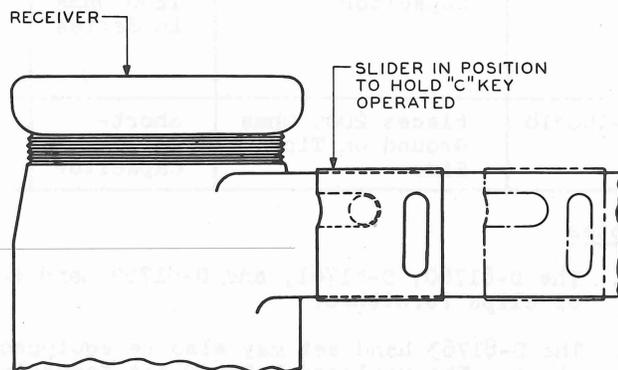

Fig. 6 - D-96823 Key Locking Slider
2.08 A D-96823 key locking slider is available for use with these sets. This slider which is shown in Fig. 6 provides a means for holding the C button operated. The slider is arranged to grip the hand set handle with sufficient pressure so that it will not slide out of position. The slider can be moved along the handle without interfering with the operation of the R key.